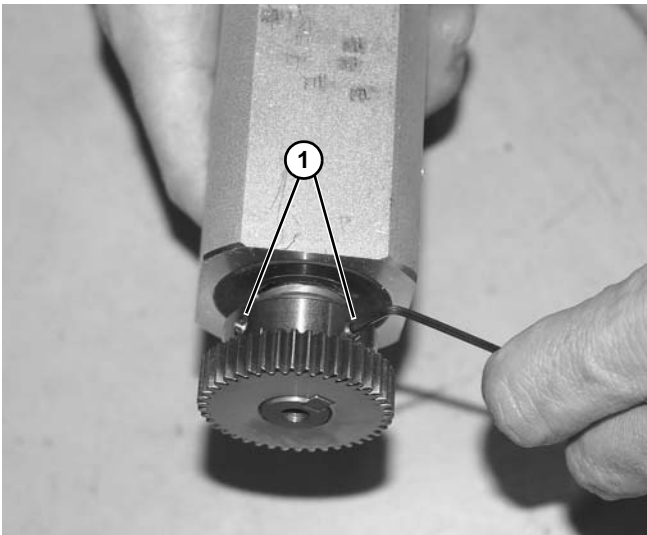

Figure 79
7. Loosen two set screws (**Figure 79, item 1**) on gear.